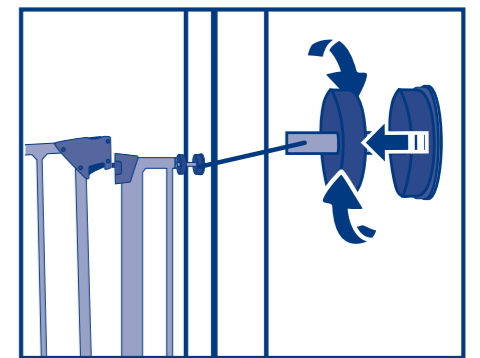

Fig. 6
- Tighten the upper tension nuts towards the frame, then tighten lower tension nuts towards frame until the upper latch handle contacts the frame. (Fig. 6)